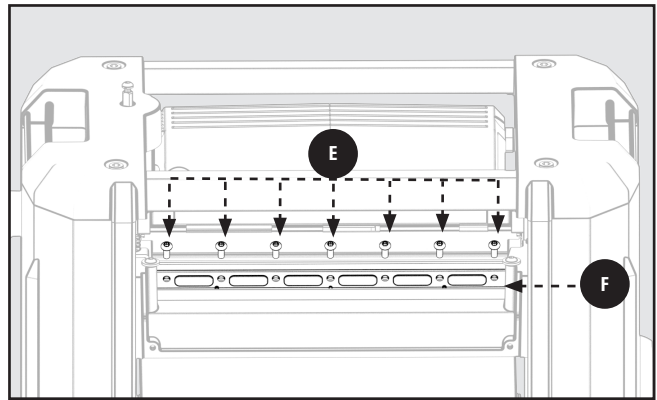

FIGURE 21
10. Attach the hold-down bar **F** Figure 21 that you removed in **STEP 4**. Tighten all fasteners securely **E**.